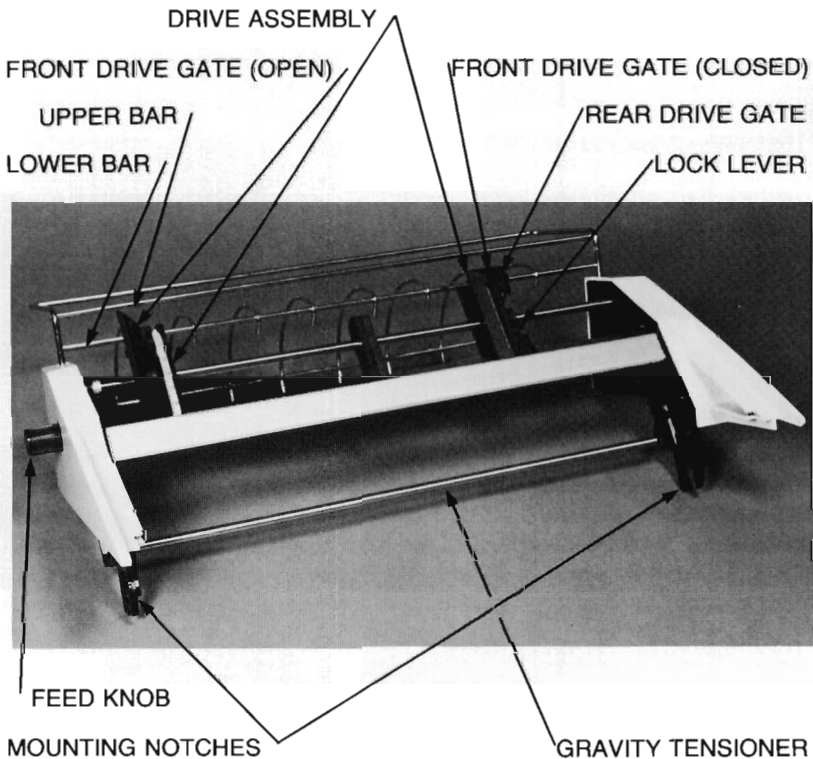

Figure 2 26020A Forms Tractor
- Study the photo in Figure 2 briefly to become familiar with the various parts of the tractor.